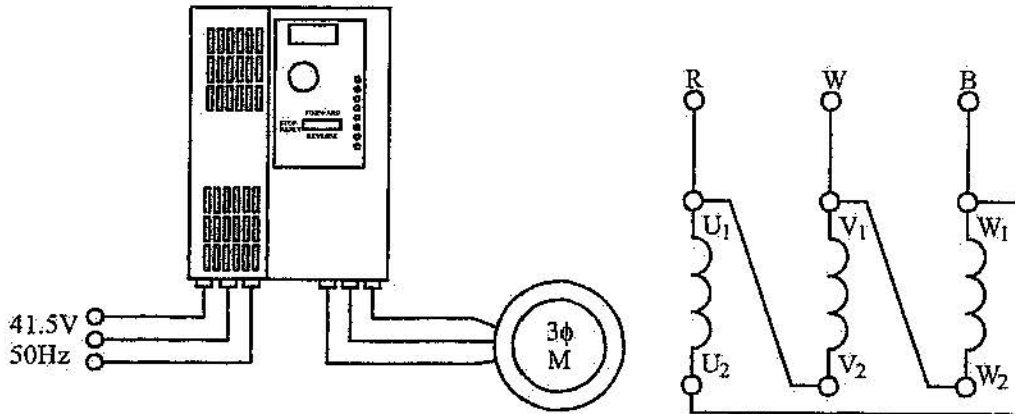

Figure 1
2. Connect the prime mover as shown in figure 1. This arrangement will be used throughout the practical assignment.